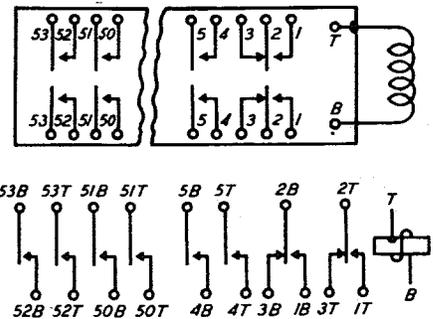

FIG. 30- WINDING AND SPRING TERMINAL ARRANGEMENT AS VIEWED FROM THE REAR (TERMINAL SIDE) -229 TYPE RELAY
2.44 The contact terminals are numbered consecutively from right to left facing the terminal side of the relay with the suffix T (top) and B (bottom) as shown in Figs. 30 and 31 except on relays used in equipment where the contact terminals are identified by functional designations.